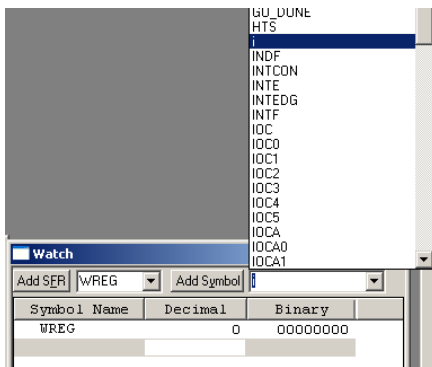

Fig 2.4: Adding the variable “i” to the Watch window
- f. Click the *Add Symbol* button; variable *i* should appear (Fig 2.4).